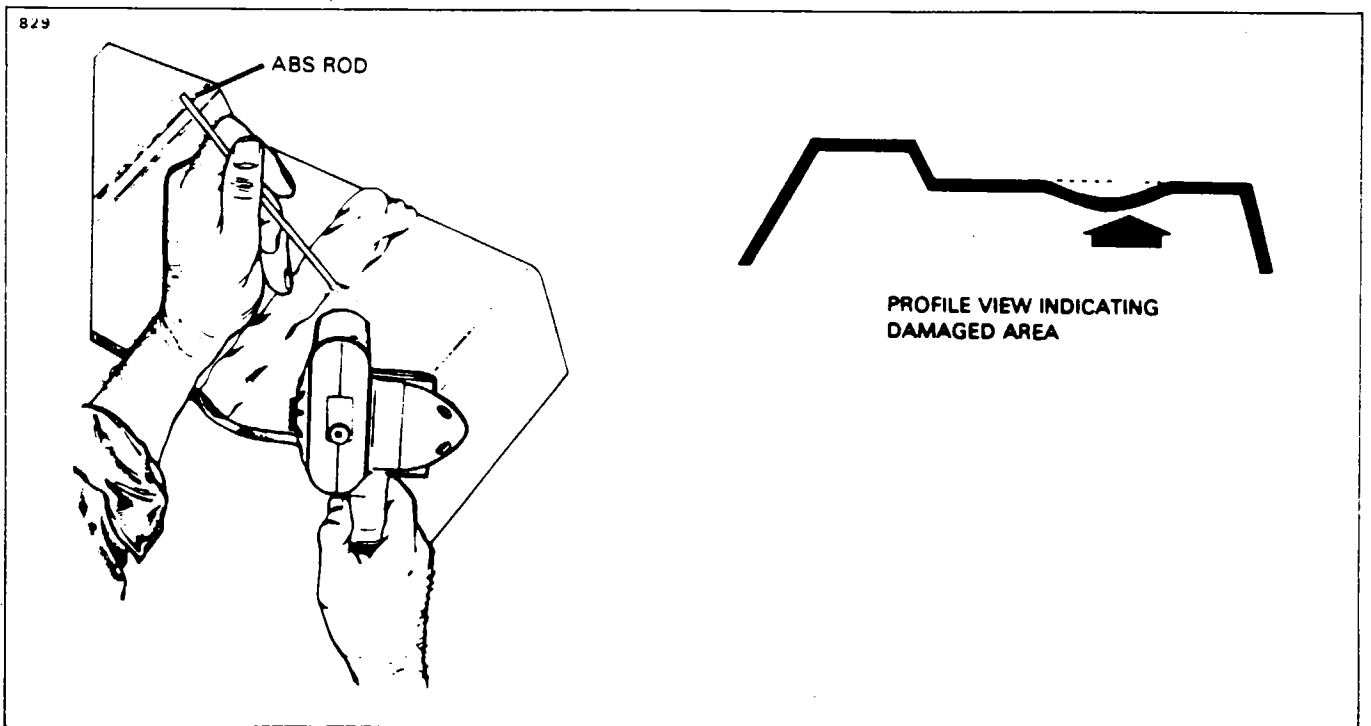

Figure 51-10. Repair of Impacted Damage
- A. Stress lines produce a whitened appearance in a localized area and generally emanate from the severe bending or impacting of the material. (Refer to Figure 51-10.)